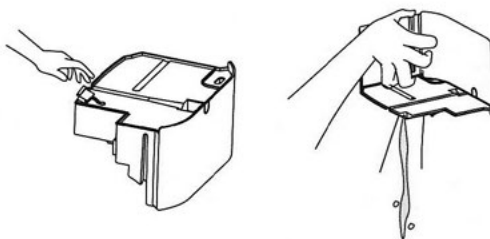

Fig. 3
3. Remove the rubber stopper. Empty the water tank to the sink (Fig. 3). Make sure the cover (8) does not fall off.